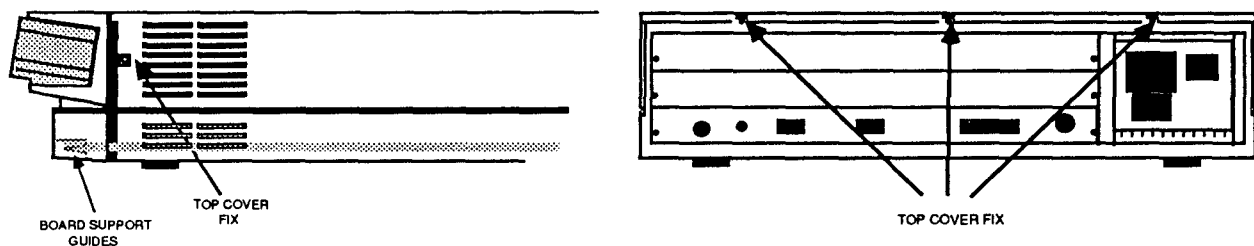

FIG. 1
3. Remove the top cover as follows (see fig. 1):